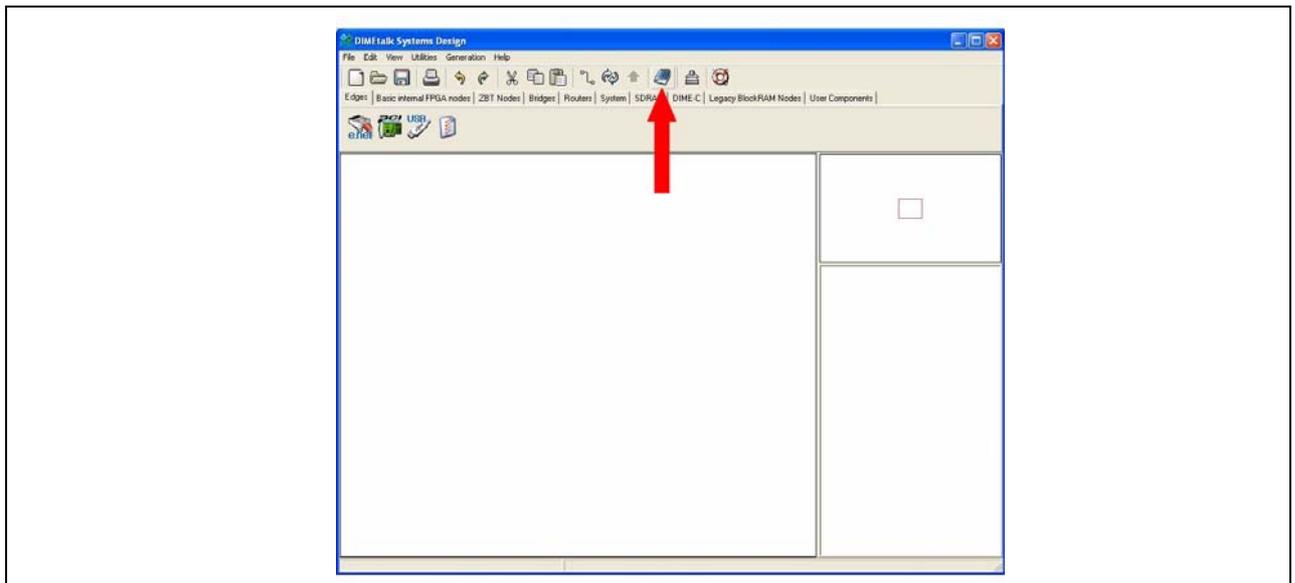

Figure 51: Library Manager Button
1. In DIMETalk System Design click on the Library Manager button in the toolbar as shown in **Figure 51**.